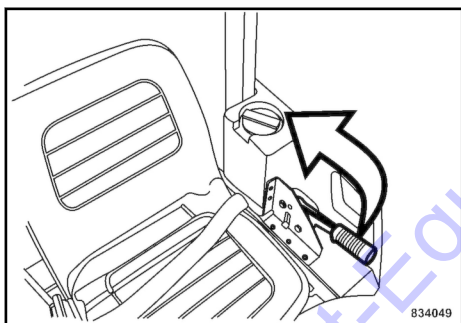

Fig. 184
4. Pull up the parking brake lever ↪ Fig. 184.